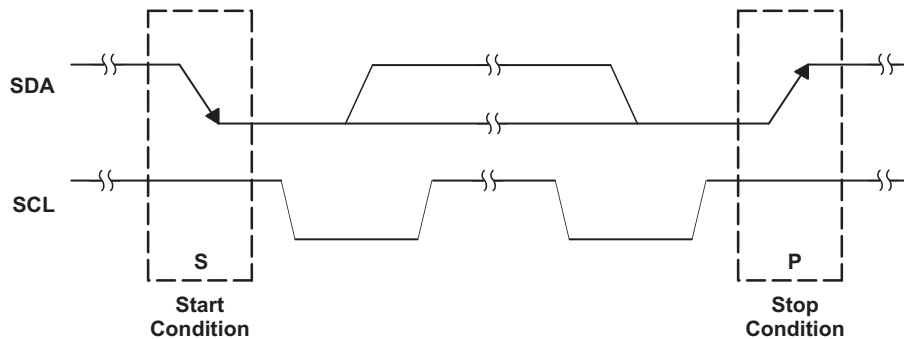

Figure 19. I2C Start and Stop Conditions
The basic I2C start and stop access cycles are shown in Figure 19. The basic access cycle consists of the following:
- The master initiates data transfer by generating a start condition. The start condition is when a high-to-low transition occurs on the SDA line while SCL is high, as shown in Figure 19. All I2C-compatible devices should recognize a start condition.
- To signal the end of the data transfer, the master generates a stop condition by pulling the SDA line from low to high while the SCL line is high (see Figure 19). This releases the bus and stops the communication link with the addressed slave. All I2C compatible devices must recognize the stop condition. Upon the receipt of a stop condition, all devices know that the bus is released, and they wait for a start condition followed by a matching address.